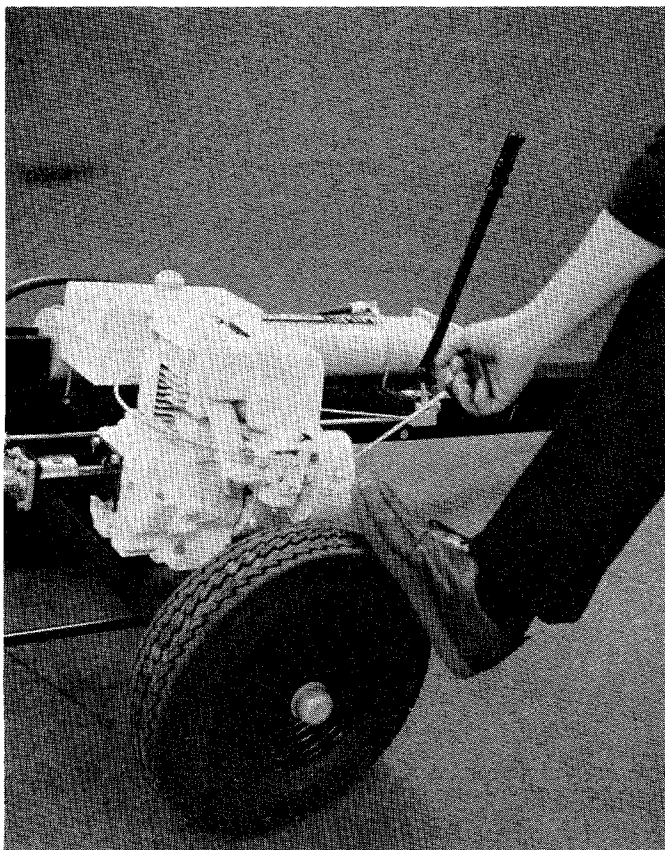

FIGURE 20
- Rewind starter — place one foot on wheel and with a quick full arm stroke, keep firm grip on handle and return rope slowly. See figure 20.